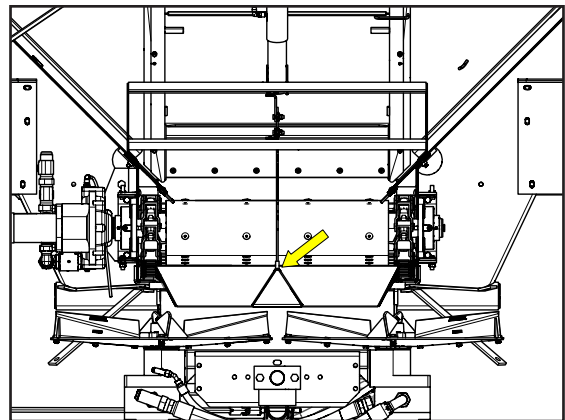

Figure 7
9. Figure 7 - If equipped, Ensure the Hillside Divider is mounted squarely and centered at both the front and the rear. Hillside Divider panel should be perpendicular to ground. Ensure the rear of the panel is centered over the center section of the Material Divider.